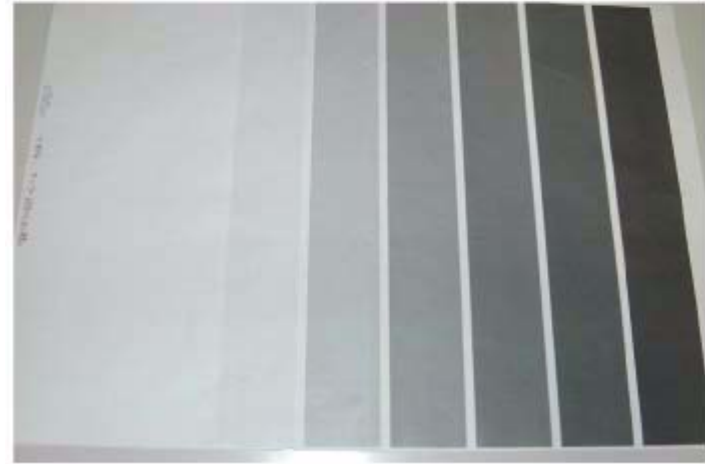

Figure 1 Tapes Not Peeled Defect Sample
1. Check customer print to compare problem to **Figure 1**.